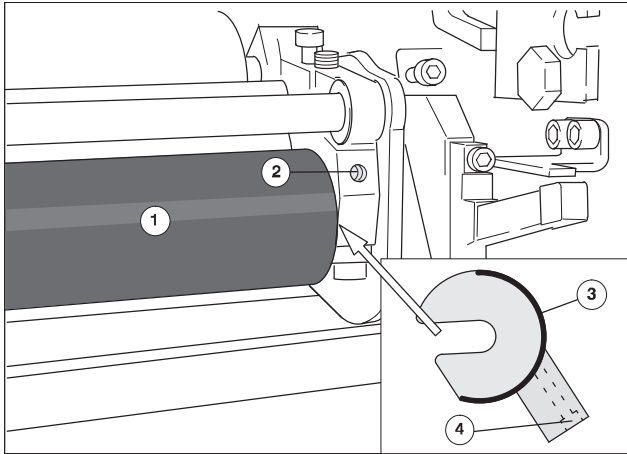

Fig. 39 Installing the splash protection plate on D.S.
After cleaning or after installing the dampening system, insert the splash protection plates on both sides of the metering roller (Fig. 39/1).
1. Slide the splash protection plate (Fig. 39/3) with the recess onto the shaft of the metering roller (Fig. 39/1).
3. Screw the Allen screw (Fig. 39/4) in the borehole at the dampening system (Fig. 39/2) using the operator tool and tighten.